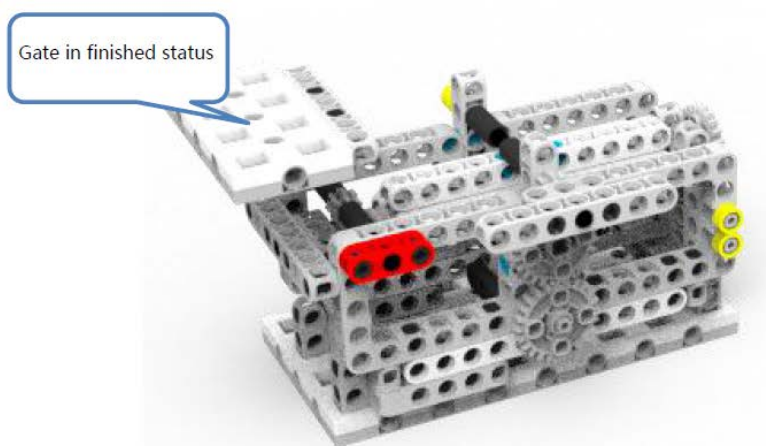

Figure 3-2-2 Sewage Task Model Finished Status
3.2.2 Twist the handle to lift the gate above the red beam, as shown in Figure 3-2-2, (50 points).